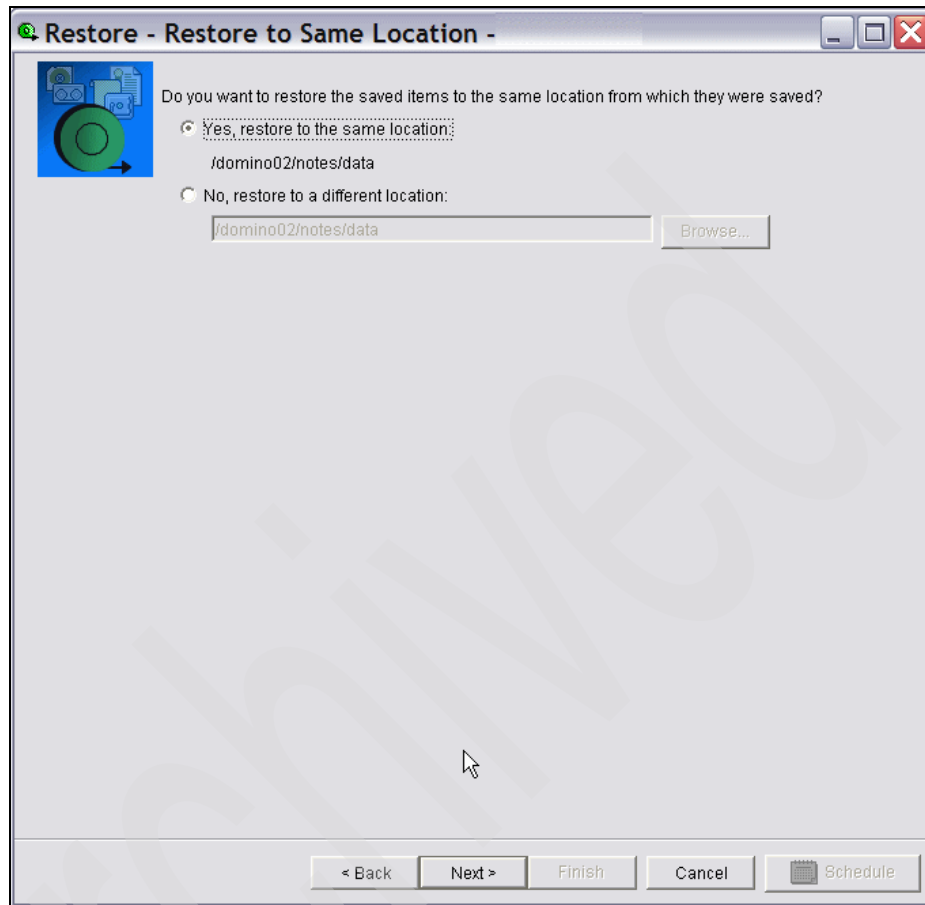

Figure 5-89 Restore Domino data with BRMS, Restore - same location
9. In the window shown in Figure 5-89 on page 269, select **Yes, restore to the same location**, and click **Next**.